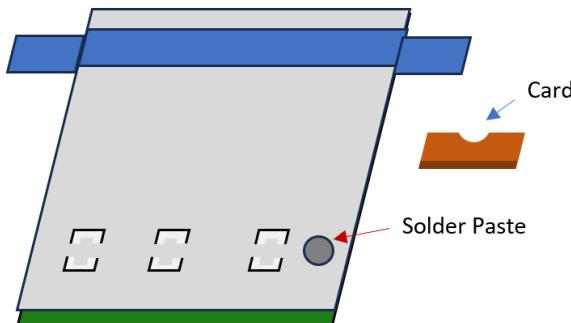

Figure 2: Using a solder paste and a plastic card applying to a PCB.
3.21. Using either a jar of solder-paste or a solder paste syringe, place or dispense a pea-sized amount of solder paste on the stencil, above the row of holes you wish to apply the solder paste to as shown in Figure 2.